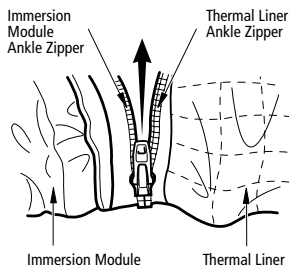

FIGURE 5
- e) Attach the two ankle zippers. The immersion module zipper will only work in one direction (see fig. 5). Apply the same procedure to the other leg.